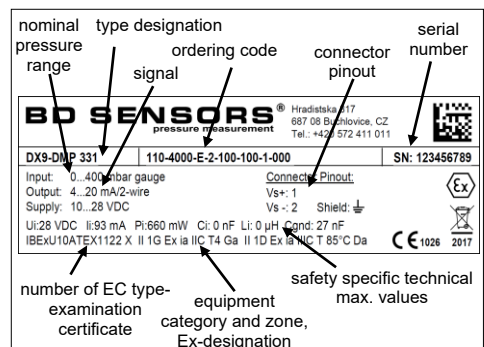

Fig1. Example of manufacturing label – for DX9
- Make sure, your device has been ordered and delivered as a special version for oxygen applications. You can check the manufacturing label (see figure 1). If the ordering code ends with "007", then the device is suitable for oxygen applications.